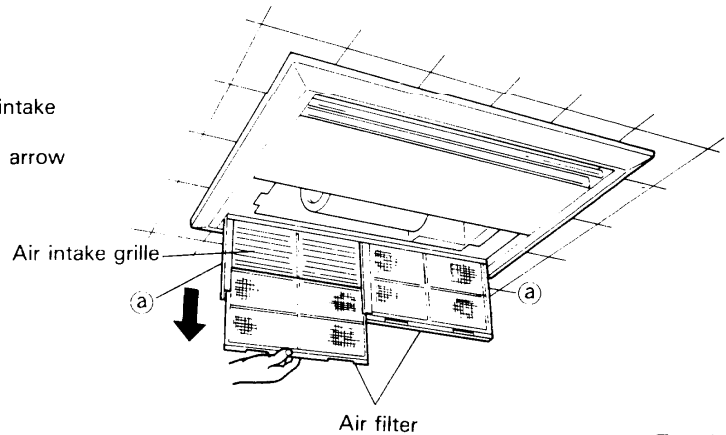

Fig. 2
- (1) Slide the two mounting plates (a) of the air intake grille and lower the air intake grille.
- (2) Remove the two air filters by pulling them in arrow direction. Fig. 2